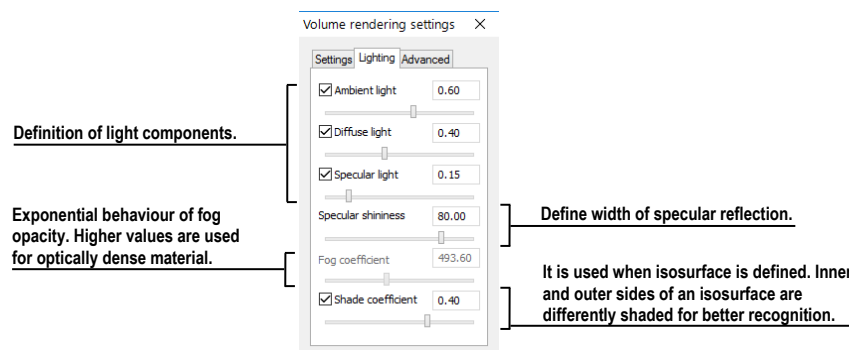

Figure 332 – Volume rendering settings, the second tab
- Lighting settings used in volume rendering on the second tab (see Figure 332)